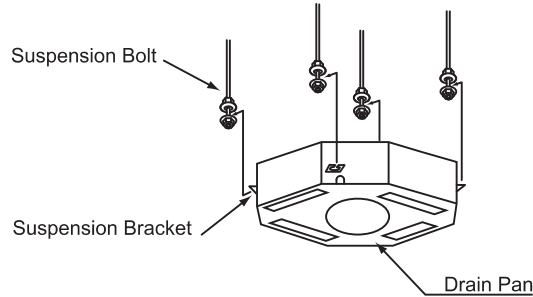

Fig. 3.8 Mounting the Indoor Unit
- (2) Lift the indoor unit by hoist, and do not apply any force on the drain pan.
- (3) Secure the indoor unit using the nuts and washer, as shown in Fig. 3.8.